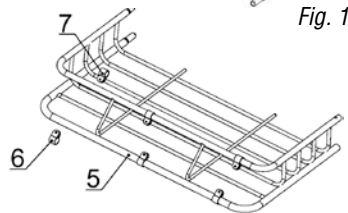

Fig. 2
2. Place the front platform (#5) flat on the floor. Snap the top clips (#7) and bottom clips (#6) onto the top and bottom tubes of the rack as shown in Fig. 2.